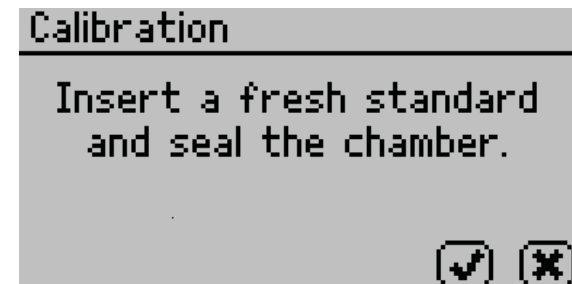

Figure 49 Calibration instruction dialog
5. A prompt will appear to insert a fresh standard and seal the chamber (Figure 49).